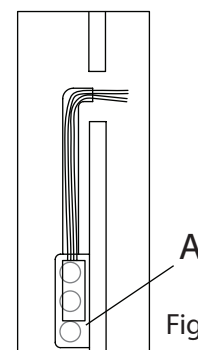

Fig. 1
2. The LED driver (A) must be installed in a remote and accessible location near the fixture in accordance with local electrical code (Fig. 1).
- c. Connect the LED driver's positive (+) output wire to the necessary length of red wire (not included) to reach the fixture (B) location.
3. Drill a small 1/4" hole (C) in the wall behind the fixture (B), and pull the low voltage wires through the wall.
4. Using the fixture (B) as a template, install mounting Allen screws (D) with the provided Allen key (E) and anchors (F). Do not tighten screws completely.
5. Pull the LED Driver's (A) positive (+) and negative (-) wires and route through the wire slot (G) on fixture (B).